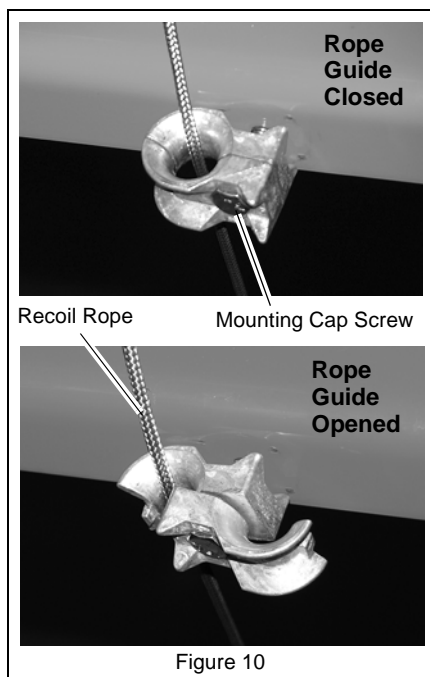

Figure 10
Loosen lock nut on inner side of handlebar bracket until rope guide mounting cap screw is loose enough to allow lower half of guide to be rotated away from upper half, opening rope guide. See Figure 10.
2. Position recoil rope in upper half of guide and then rotate lower half back to close guide, capturing rope. See Figure 10.